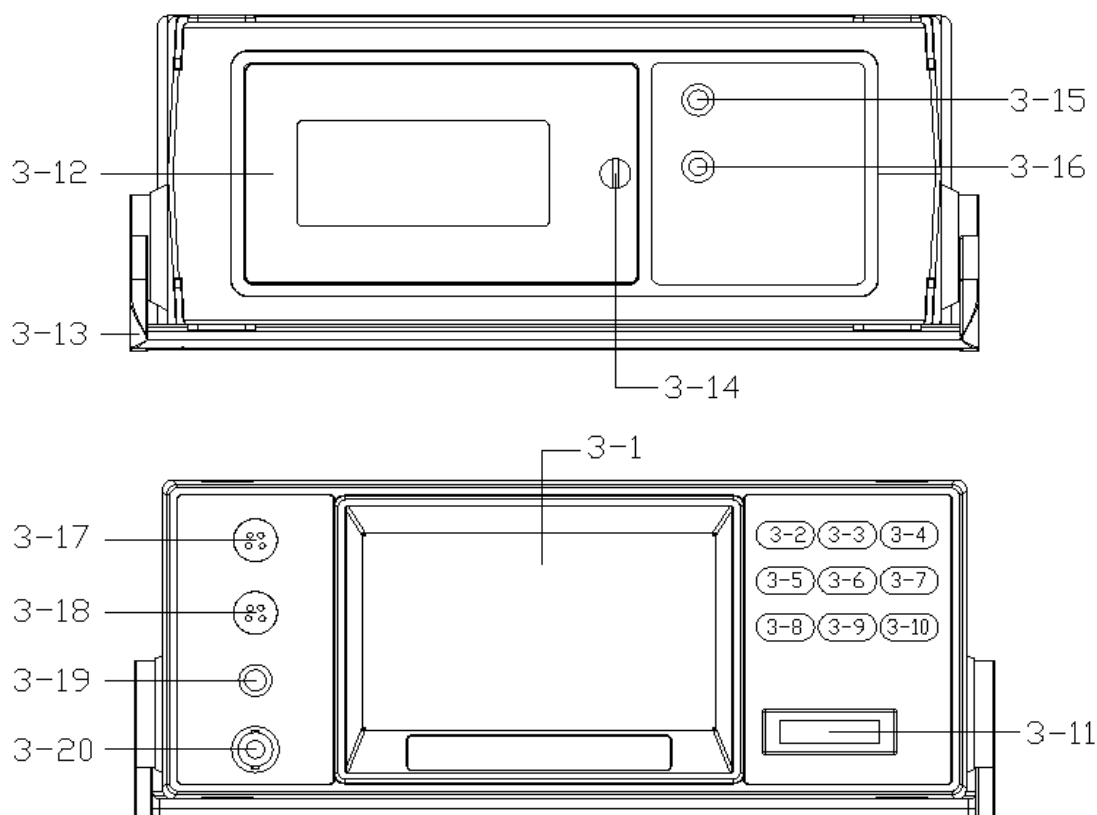
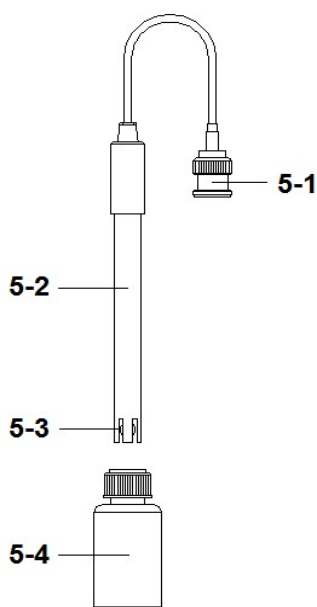

Fig. 1
Fig. 2
(3-9, Fig. 1) momentarily.
** Pressing the " Power Button " (3-9, Fig. 1)
Use the " Function Button " (3-5, Fig. 1) Key to select intent test
- 1) Power on the meter by pressing " Power Button "(3-9, Fig. 1) >2 sec. .Use the " Function Button " (3-5, Fig. 1) Key, select to pH measurement Function.refer to Chapter 4, page 11.
- 2) Prepare the pH Electrode (optional), install the " Probe Plug " (5-1, Fig. 2) into the " PH Socket/BNC Socket " (3-20, Fig. 1).
- 4) Hold the " Electrode Handle " (5-2, Fig. 2) by hand and let the " Sensing head " (5-3, Fig. 2) immersed wholly into the measured solution and little shake the electrode.
- 1) All the procedures are same as 5-1 PH measurement (manual Temp. compensation) but should prepare one temperature probe (optional,TP-07), insert the TP-07's plug into the " Temp. Socket "(3-19, Fig. 1), immerse the sensing head of temperature probe (TP-07) into the measurement solution.
When not use the Electrode, it should immerse the " Electrode sensing head " (5-3, Fig. 2) into the " Protection bottle " (5-4, Fig. 2)
- 1) Use the " Function Button " (3-5, Fig. 1) Key, select to mV (ORP) measurement Function. the Display unit will show " mV "
- 2) Prepare the ORP Electrode (optional, ORP-14), install the " Probe Plug " of ORP electrode into the " PH Socket/BNC Socket " (3-20, Fig. 1).
- 1) Prepare the pH Electrode (optional), install the " Probe Plug " (5-1, Fig. 2) into the " PH Socket/BNC Socket " (3-20, Fig. 1).
- 2) Power on the meter by pressing " Power Button "(3-9, Fig. 1) once. Select the Meter's measurement Function to " PH ".
- 4) Hold the " Electrode Handle " (5-2, Fig. 2) by hand and let the " Sensing head " (5-3, Fig. 2) immersed wholly into the measured solution and little shake the probe. Display will show the PH value.
- 5) Use the two fingers to press the " ▲ Button " (3-66, Fig 1) and " ▼ Button " (3-7, Fig. 1) continuously at least 2 seconds, at the same time Display will show the following screen.
- 6) Press the " ▲ Button " (3-6, Fig. 1) or " ▼ Button " (3-7, Fig. 1) once in sequence to select the following screen.
Press the " Enter Button " (3-10, Fig. 1) will save the calibration data and finish the calibration procedures.
- * If select the d screen, press the " Enter Button " (3-10, Fig. 1) will clear existing calibration data.